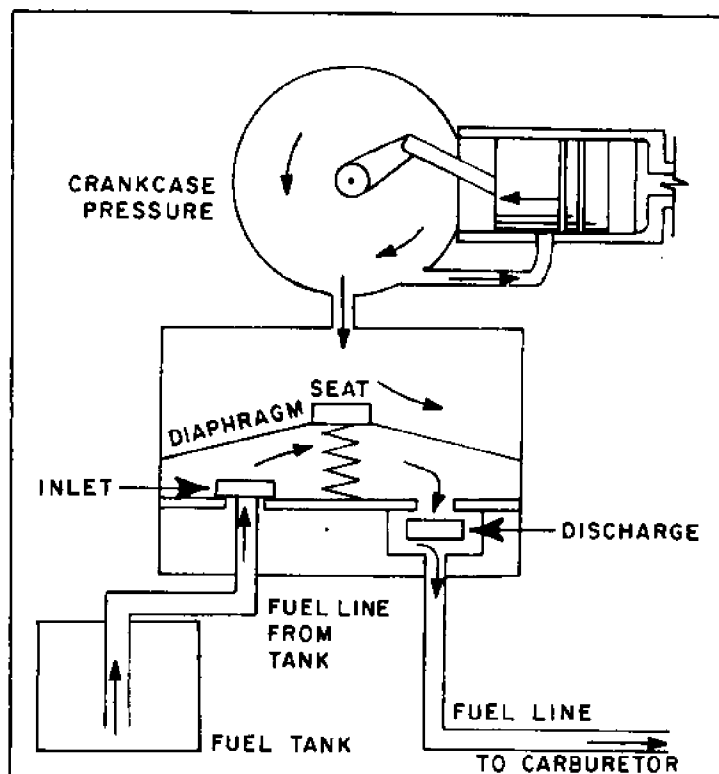

Fig. 1. How an outboard motor's fuel pump is operated by the pulsating pressure from the crankcase.
The power source for all outboard motors is the internal combustion, reciprocating engine. The basic difference in these power sources is the way in which the fuel mixture is ignited. Most outboards have their fuel ignited by an electric spark (Otto Cycle Engine) as opposed to heat of compression ignition (Diesel Cycle). In most outboards one complete crankshaft revolution completes the series of events necessary to make the engine run. This is called a two-stroke cycle. In a two-stroke cycle engine, five events must take place in two strokes of the piston, or in one revolution of the crankshaft. They are: (1) intake (fuel and air), (2) compression, (3) ignition, (4) power, and (5) exhaust. A compressed fuel charge is fired each time the piston reaches the top of the cylinder, and each downward stroke is a power stroke. In order to accomplish this, the initial pressure of the incoming fuel-air mixture must be raised to a point somewhat higher than the lowest pressure existing in the cylinder; otherwise, a fresh charge of fuel could not be admitted and the engine would not run (Figure 1). This elevation of pressure requires the use of an air pump, or compressor, of approximately the same volume as the cylinder itself. Coincidentally, such an air pump is available with a minimum of additional parts, cost, or friction losses by utilizing the opposite side of the piston and cylinder as the pump. Such engines, called "crankcase scavenged," are almost universally used in the outboard motor industry.